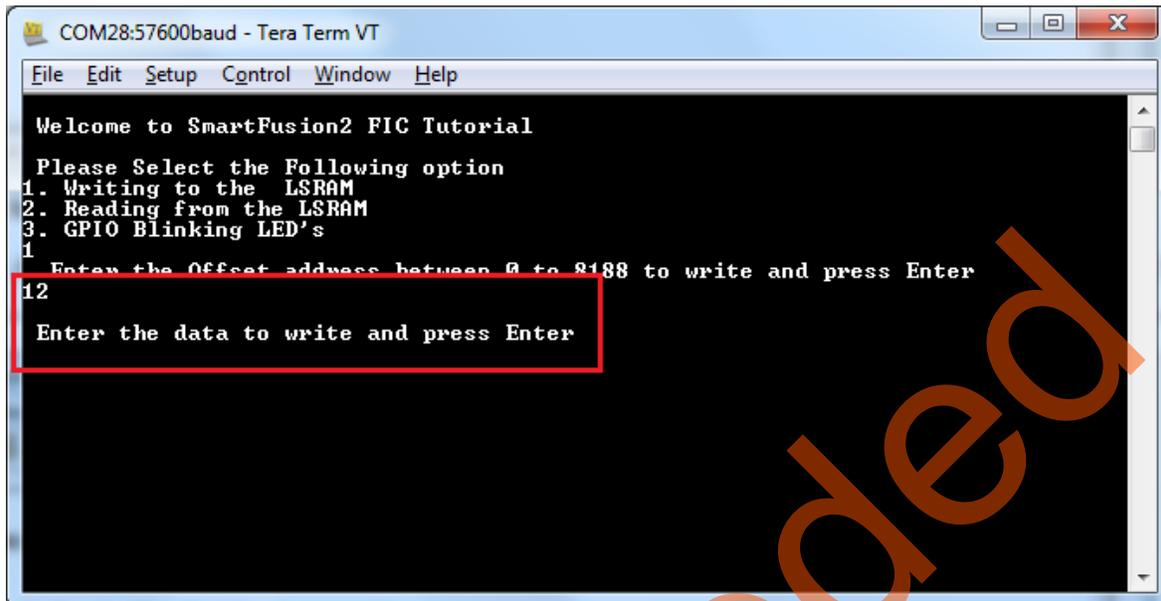

Figure 54 • Writing to LSRAM
10. After Entering the offset address, it prompts for “Enter data to write” as shown in Figure 54.